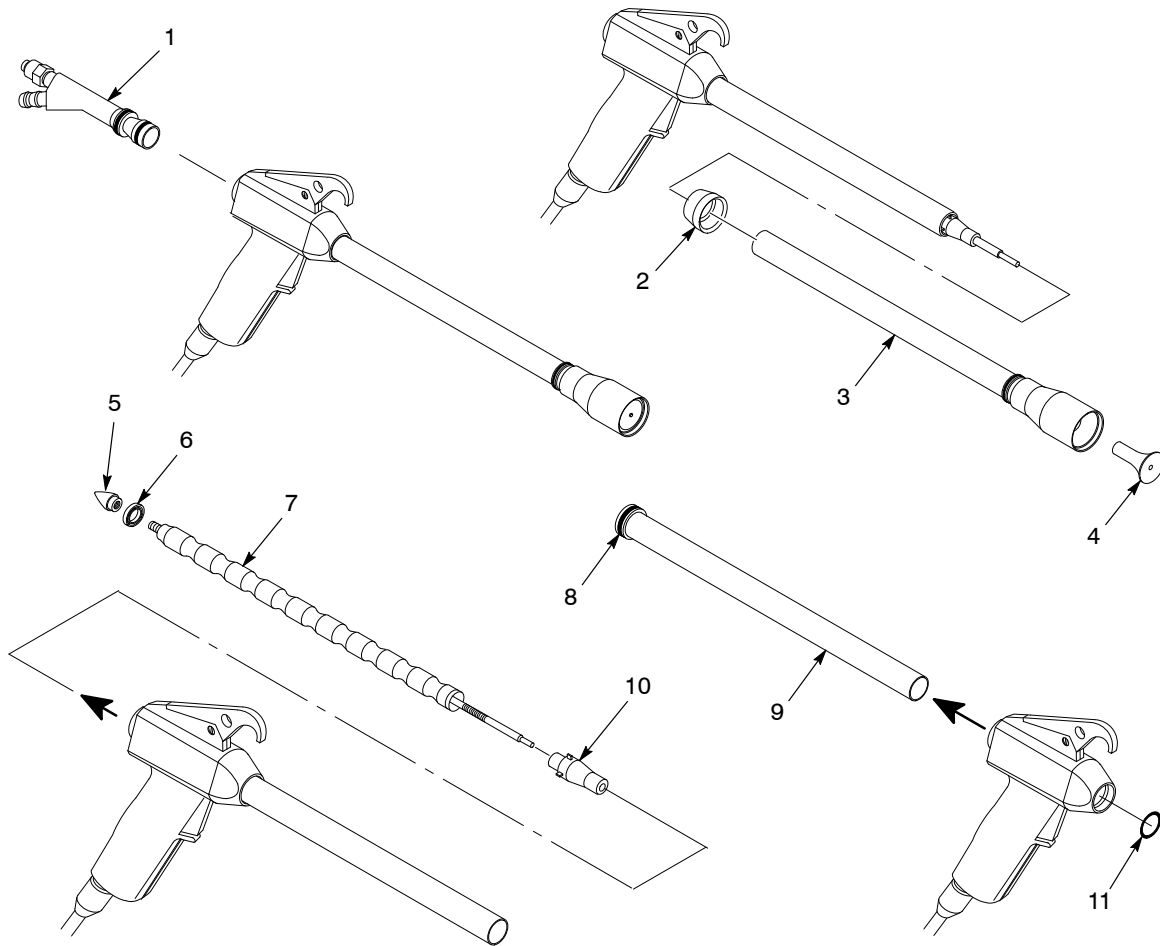

Figure 4 Inner and Outer Charge Sleeve Replacement
2. See Figure 4. Pull the diffuser (1) out of the gun body with a slight twisting motion.
3. Pull the outer charge sleeve support (3) out of the gun body with a slight twisting motion. The deflector (4) will pop out. Be careful not to lose it.
4. Slide the pattern adjuster retainer (2) away from the outer charge sleeve O-ring (8). The retainer can remain on the outer charge sleeve support, unless replacement is necessary.
5. Push, then pull the inner charge sleeve assembly (7) out of the outer charge sleeve. The inlet distributor (5), guide (6), and outlet distributor (10) are the only parts of the inner charge sleeve assembly that can be replaced separately. To replace these parts unscrew the distributor from the rest of the assembly.
1. See Figure 4. Install the O-ring (8) on the new outer charge sleeve. Make sure the O-ring (11) in the gun body is undamaged. Replace the O-ring if necessary.